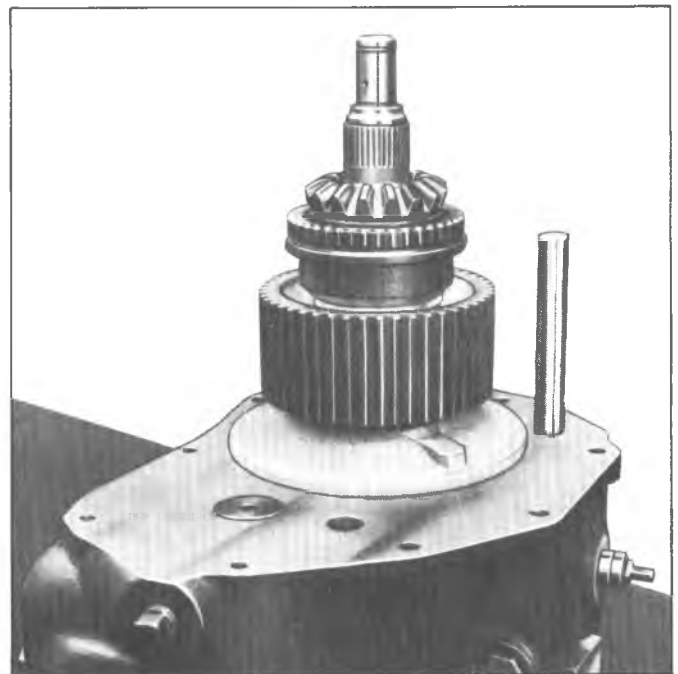

Fig. 22F—Drive Gear and Lockout Clutch Assembly Installed
5. Connect lockout clutch shift rail to the connector link and position rail in housing bore (fig. 22F). Rotate shifter shaft lowering shift rail into the housing, to prevent the link and rail from being disconnected.